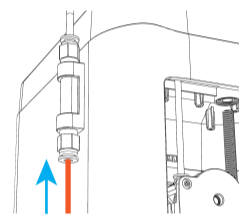

Figure 8
04. After heating is completed, the screen will prompt "Insert filament and Press Button to continue". At this time, you need to insert the filament into the inlet of the material break detection sensor and push the filament into the extruder (as shown in Figure 8 below) until the filament cannot be pushed, then press the knob again, the extruder gear starts to rotate, and make sure the extruder is gripping the filament.